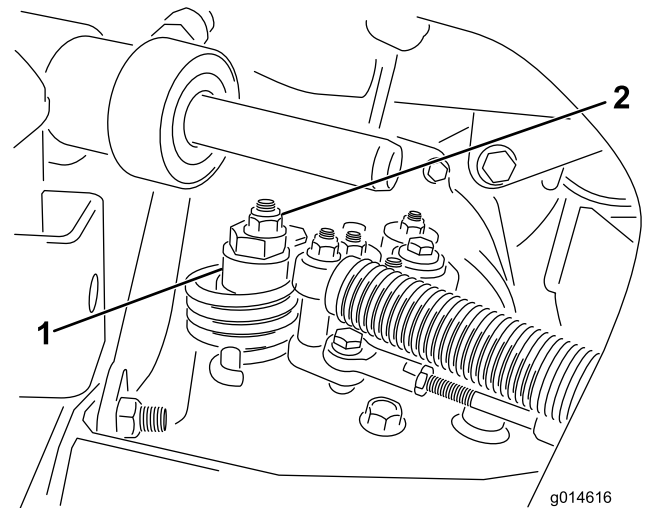

Figure 3
- A. Loosen the nut that secures the eccentric to the top of the hydrostat (Figure 3).
- D. Rotate the eccentric until there is no creep in either direction. When the wheel stops rotating, tighten the nut to lock the eccentric and the adjustment (Figure 3).